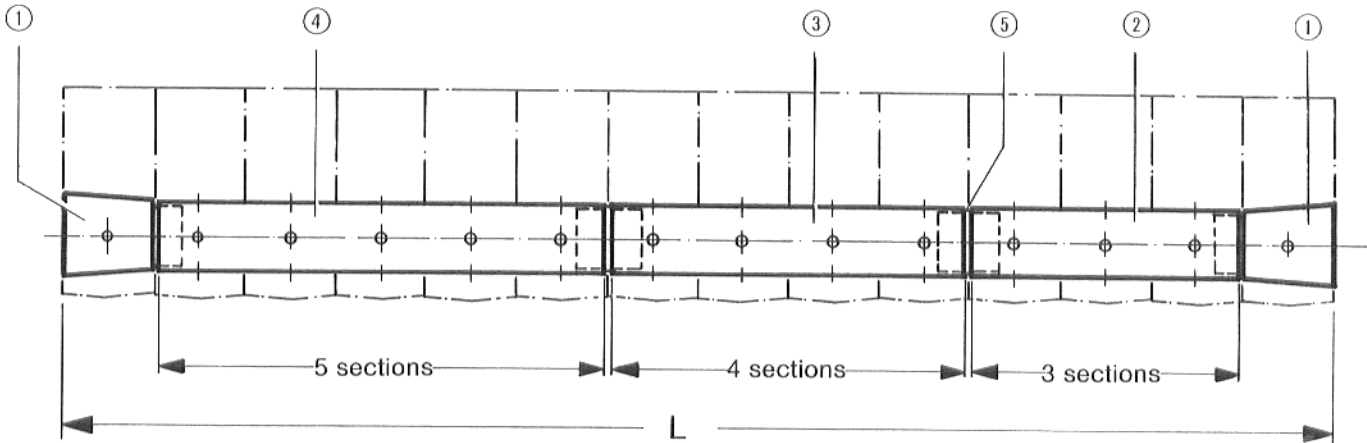

Fig. 15
The feed pipe consists of two end pieces (item 1) and, depending on the boiler size, one or several middle sections (item 2, 3 or 4) as well as connecting parts (item 5) see Fig. 15 and table).
1. Put together middle part (item 2, 3 or 4) depending on boiler size and connecting part (item 5) (Figs. 15 and 16).